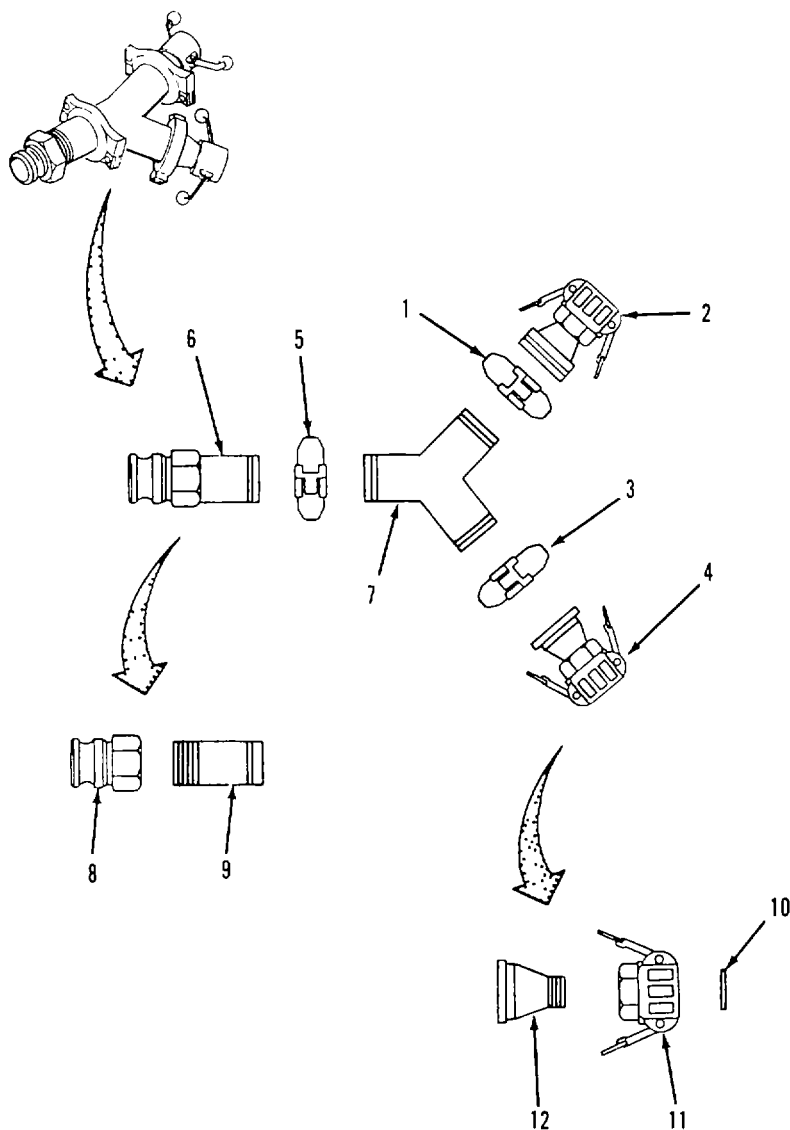

Figure 4-23. Y-Connector Disassembly.
a. Disassembly. Refer to figure 4-23.
(1) Remove coupling clamp (1) and separate reducer assembly (2) from y fitting (7).
(2) Remove coupling clamp (3) and separate reducer assembly (4) from y fitting (7).
(3) Remove coupling clamp (5) and separate nipple assembly (6) from y fitting (7).